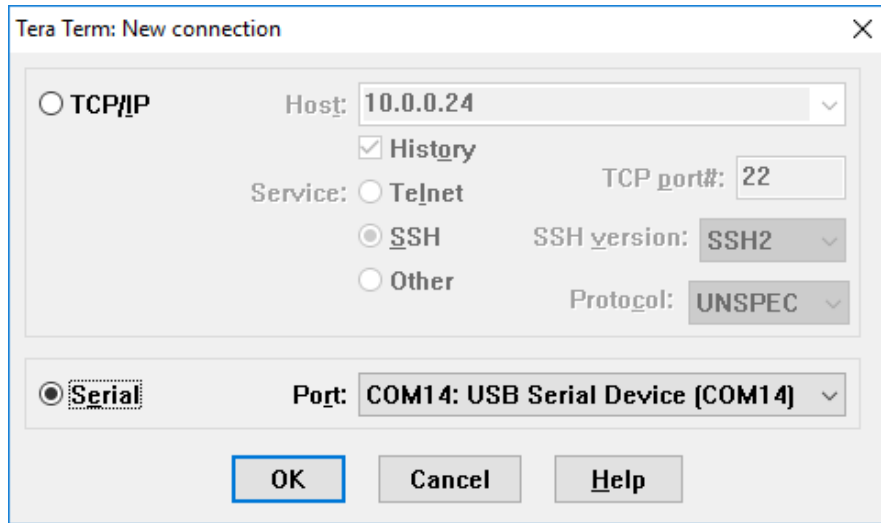

Figure 5-3 Com Power Selection
3. Then launch the TeraTerm application, then select the serial and select the correct COM Port and select “OK”. (See Figure 5-3)